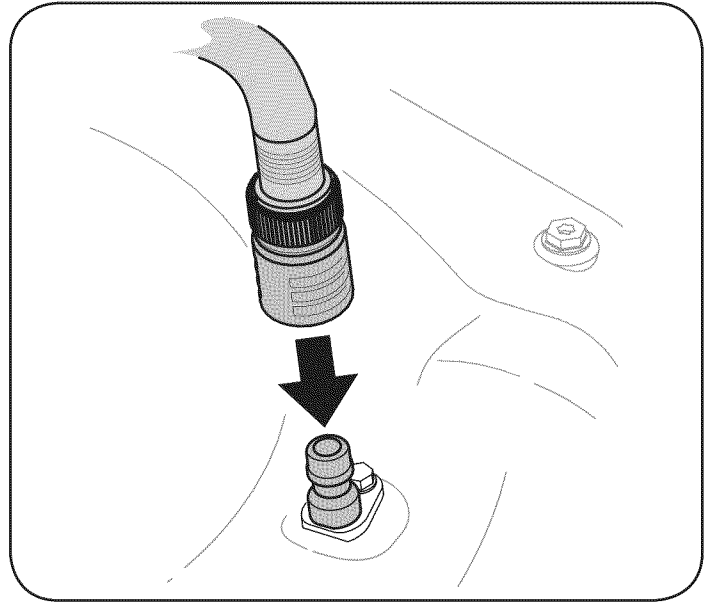

Figure 19
3. Attach the hose coupler to the water port on your deck's surface. See Figure 19.